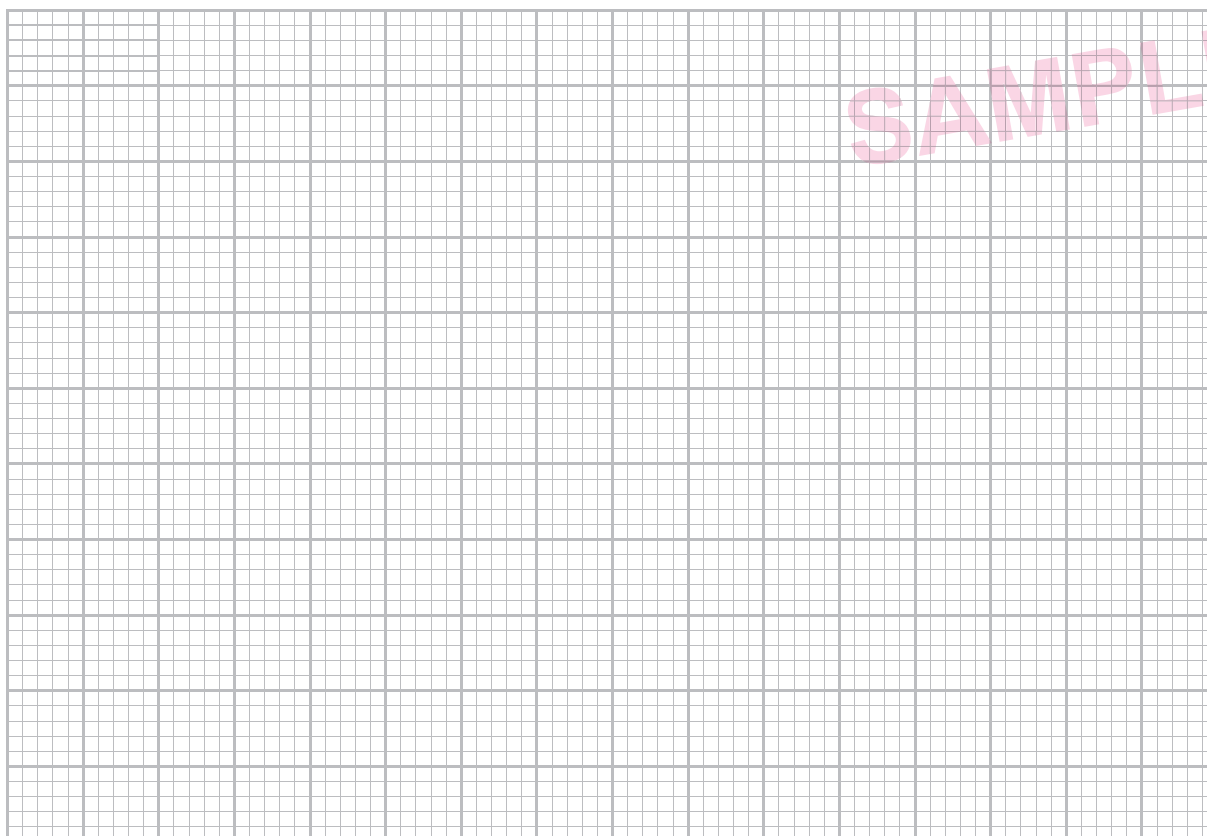

Figure 8
Figure 8 shows a blank grid on which to draw a bar chart for the blade rejects.
- a. Complete the bar chart in Figure 8 showing the blade rejects for the six months.